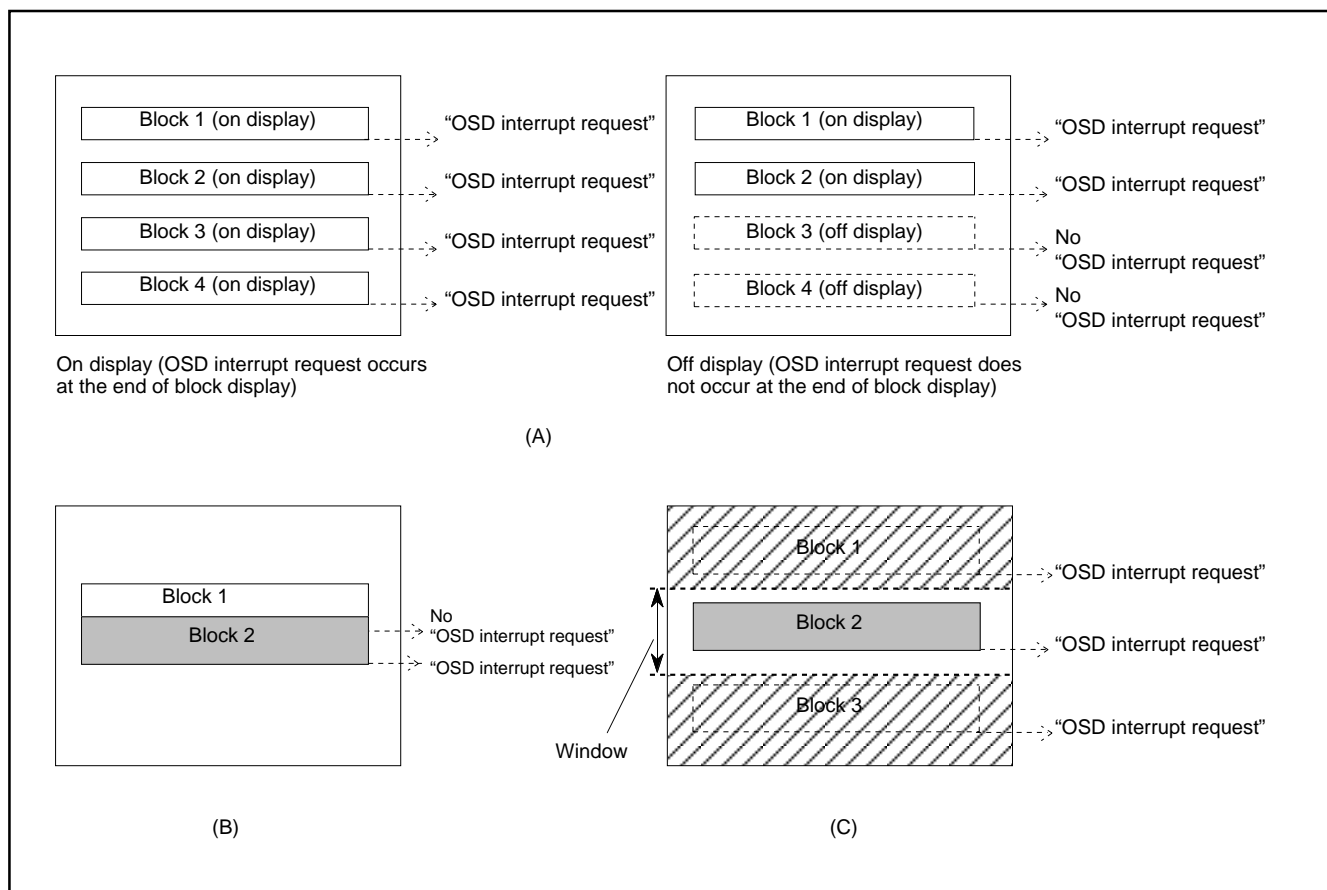

Fig. 8.11.37 Note on Occurrence of OSD Interrupt
**Notes 1:** An OSD interrupt does not occur at the end of display when the block is not displayed. In other words, if a block is set to off display by the display control bit of the block control register i (addresses 00D016 to 00DF16), an OSD interrupt request does not occur (refer to Figure 8.11.37 (A)).
**2:** When another block display appears while one block is displayed, an OSD interrupt request occurs only once at the end of the another block display (refer to Figure 8.11.37 (B)).
**3:** On the screen setting window, an OSD interrupt occurs even at the end of the CC mode block (off display) out of window (refer to Figure 8.11.37 (C)).